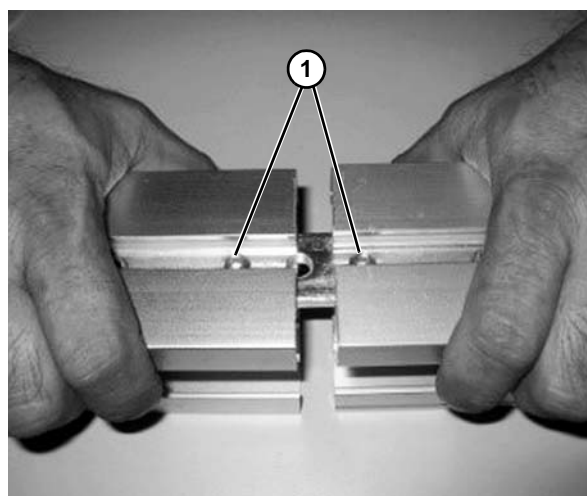

Figure 22
2. Make sure that the set screws (**Figure 22, item 1**) do not prevent the connection strips from sliding into place.